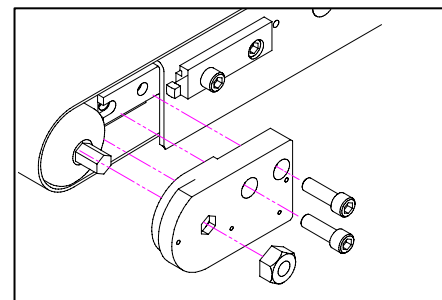

Figure 3
❸ Remove Drive Mount and Motor Pulley
- a. Using a 3/4" Wrench or an Adjustable Wrench, remove the 3/4" Nut and Serrated Lock Washer from each side of the Motor Pulley. Be careful when sliding the nut and washer down the cable and over the connection plug (**Figure 3**).
- b. On the side where the lead wires come out of the motor, remove the 2 Socket Head Cap Screws that hold the drive plate on using a 1/4" Allen Wrench (**Figure 3**).
- c. Slide the drive plate off making sure you support the end of the motor pulley. Again, be careful when sliding the plate down the wire and over the connection plug (**Figure 3**).